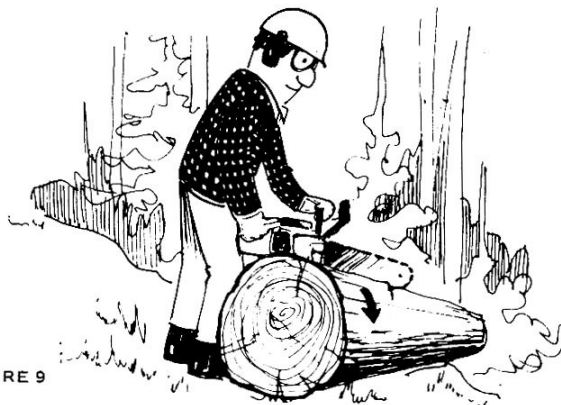

FIGURE 9
21. When bucking a log, it is important to make sure footing is firm and weight is evenly distributed on both feet. If possible, the log should be raised and supported by use of limbs, logs or chocks. When bucking or felling on a slope, always work from the uphill side. See Figure 9.